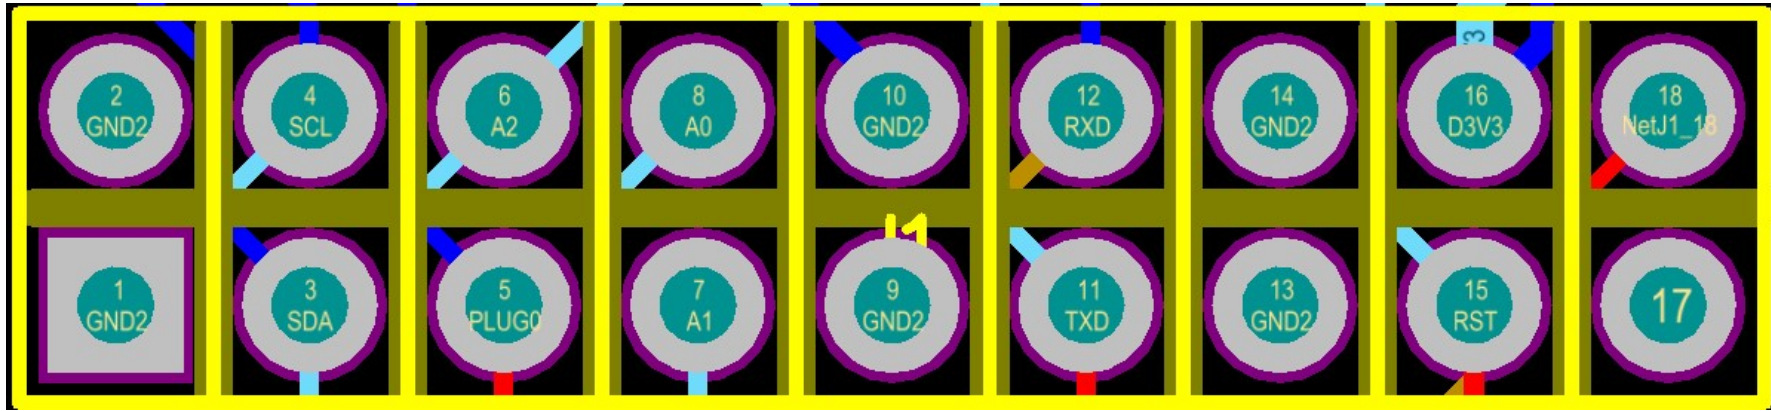

Fig 8. Each Pin Definition of IO
**3. IO Mouth: IO is composed of 2X9 pitch 2.0 PHSD 90° in-line double row. The definition of each pin as below Fig 8:**